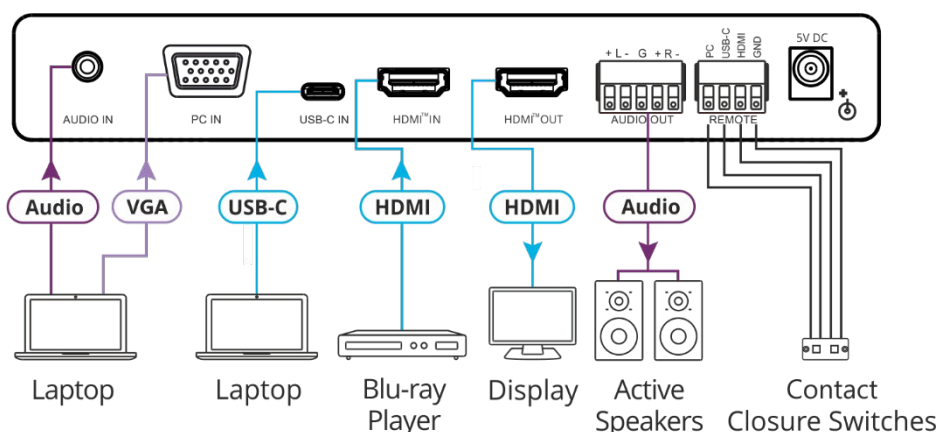

Figure 5: Connecting to the VP-426C Rear Panel
To connect the VP-426C as illustrated in the example in Figure 5:
- The unbalanced stereo audio PC source to the AUDIO IN 3.5mm mini jack (11).
- The VGA signal to the PC 15-pin HD connector (12).
2. Connect a USB-C source (for example, a laptop) to the USB-C port (13).
3. Connect an HDMI source (for example, a Blu-ray player) to the HDMI IN connector (14).
4. Connect the HDMI OUT connector (15) to an acceptor (for example, a display).
5. Connect the AUDIO OUT 5-pin terminal block connector (16) to a balanced stereo audio acceptor (for example, Kramer **TAVOR 6-O** active speakers).
6. Connect the REMOTE 4-pin terminal block connector (17) to contact closure switches (for example, Kramer **RC-22TB**).
7. Connect the power adapter to the **VP-426C** power connector (18) and to the mains electricity (not shown in Figure 5).
To connect the VP-424C as illustrated in the example in Figure 5:
1. Connect a USB-C source (for example, a laptop) to the USB-C port ⑬.
2. Connect an HDMI source (for example, a Blu-ray player) to the HDMI IN connector ⑭.
3. Connect the HDMI OUT connector ⑮ to an acceptor (for example, a display).
4. Connect the REMOTE 4-pin terminal block connector ⑰ to contact closure switches (for example, Kramer **RC-22TB**).
5. Connect the power adapter to the **VP-424C** power connector ⑱ and to the mains electricity (not shown in Figure 5).